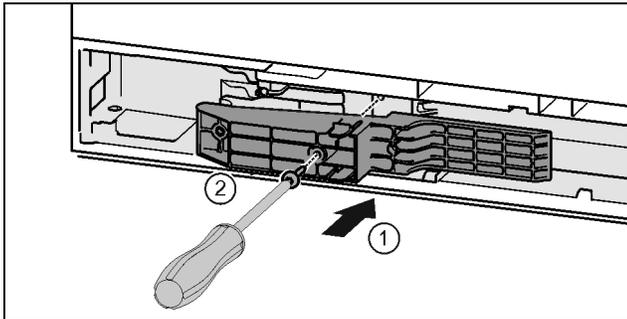

Fig. 43 *
- ▶ Insert the adapter on the handle side in the recess. Fig. 43 (1)*
- ▶ Tighten the screws using the T15 screwdriver. Fig. 43 (2)*